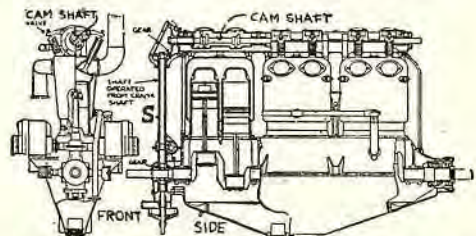
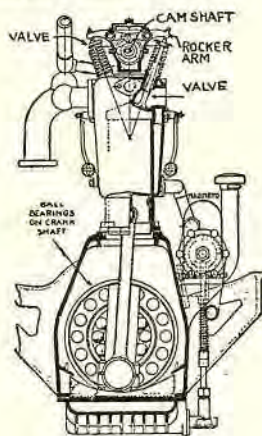

Fig. 95. Wisconsin six-cylinder aviation engine which has a valve action quite similar to that used on the Stutz racing cars. The cam shaft is carried overhead.
Fig. 98
The method of driving the overhead cam shaft is shown in Fig. 95. Note that the shaft (S) which drives the cam shaft is driven from the crankshaft gear. This principle is similar to that employed on the Stutz racing-car engine (Fig. 98).
Fig. 96. A twelve-cylinder, or "twin-six" engine with valves-in-the-head operated by overhead cam shafts. This is the Liberty Airplane engine. The cam shaft is driven in a manner similar to that shown in Fig. 95.
The Stutz engine (Fig. 98) is another example of dual valves, with both valves-in-the-head of the cylinder operated by an overhead cam shaft.